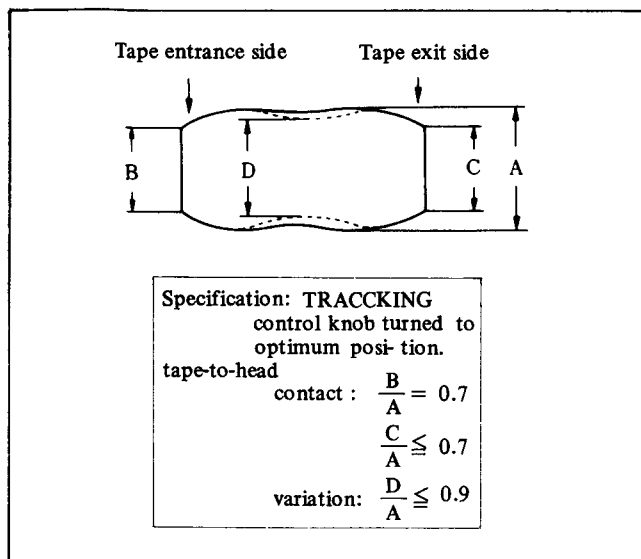
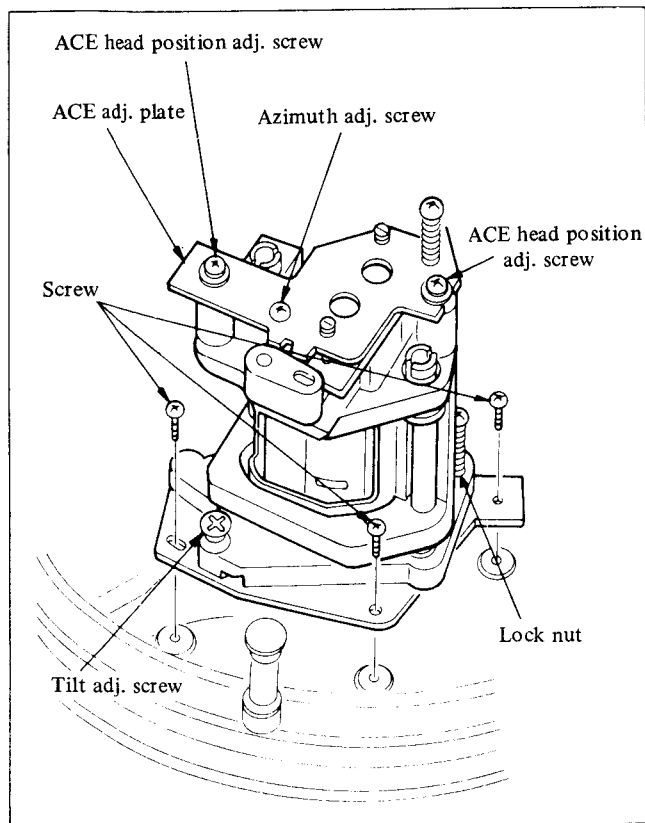

Fig. 3-25. Adjustment of Tape Path
Fig. 3-28. Removal of ACE Assembly
- (5) Turn the TRACKING control knob to set it at the maximum RF output waveform. Confirm that the RF output waveform variations and contact meet the specification given in Fig. 3-25 at that time.
- (1) The ACE assembly can be removed if three screws shown in Fig. 3-28 are removed.
- (4) Play back the 1 MHz segment of the alignment tape (KR5-2H). Confirm that the RF wave output (see Fig. 3-25) satisfies the specification and there is a minimum curl (not more than 2 mm) on the tape edge contacting the tape guide. Confirm that the RF waveform varied from the flat state when the tape guides (E) and (F) are raised, and adjust the heights of the tape guides so that the waveform output becomes flat.
- (5) When the waveform does not vary if the tape guides (E) and (F) are raised in Step 4 or when the waveform does not become flat if the tape guides are lowered, perform the adjustment, following the procedure below.
- (i) Loosen the lock nut shown in Fig. 3-28.
- (6) When there is an edge curl at the tape contacting the tape guide in
- (1) Terminate the audio line output terminal with a 100 kΩ resistor and connect an audio level meter to it.
- (2) Play back the 5 kHz audio signal of alignment tape (KRr-1S, Z).
- (3) Adjust the azimuth adjustment screw on the audio head for a maximum VTVM reading. (See Fig. 3-28)